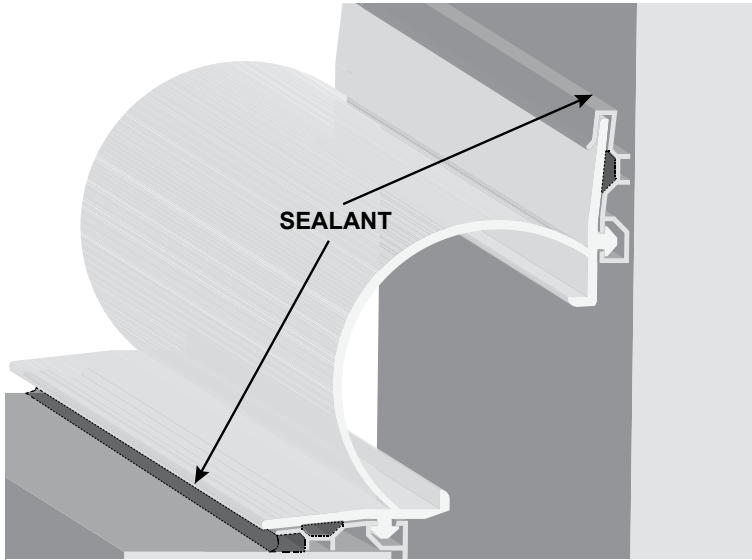

Figure 5— RWg Base Member Sealant Placement
7. Apply a continuous bead of sealant into the top gap in the wall base member and the outside gap in the roof base member (Figure 5).